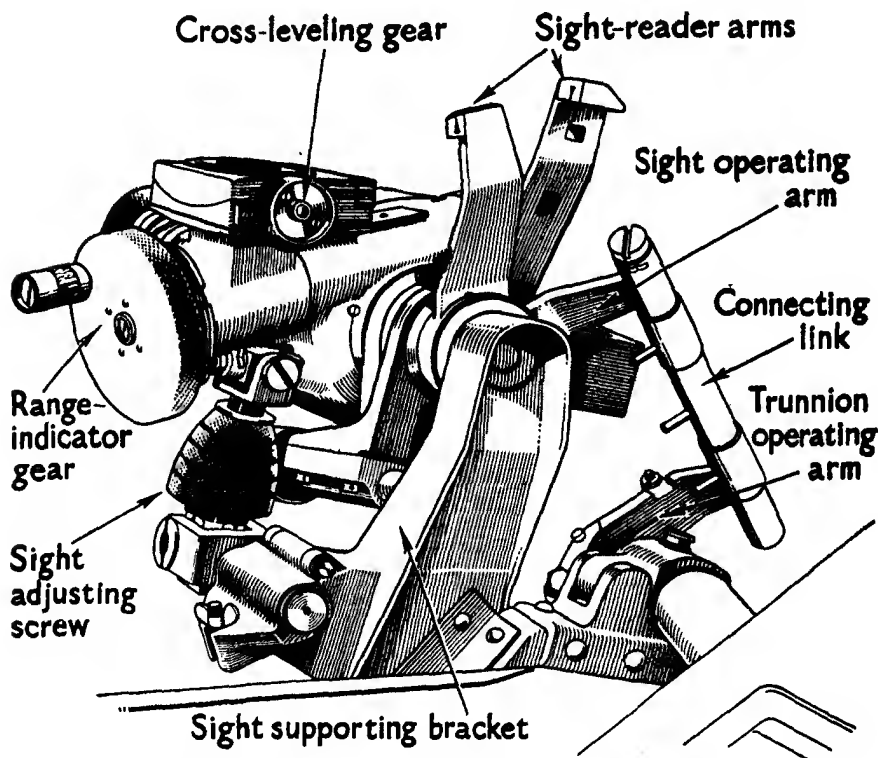

Figure 76.—Sighting mechanism (side view) of 7.5-cm infantry howitzer.
(3) *Sights*.—The sighting mechanism works on the reciprocating principle (see figs. 76 and 77). It is fitted with a range drum graduated to 1,320 meters and a